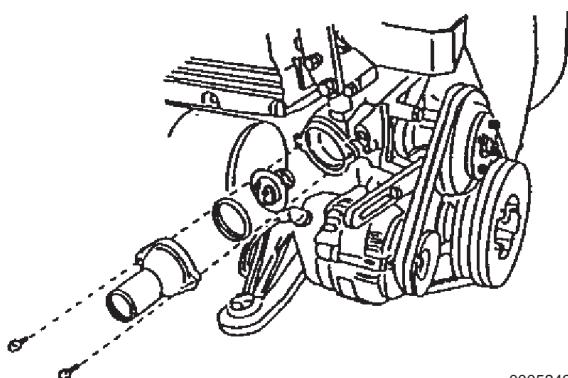

Figure 7-14
3. Install the thermostat cover (**Figure 7-14**).